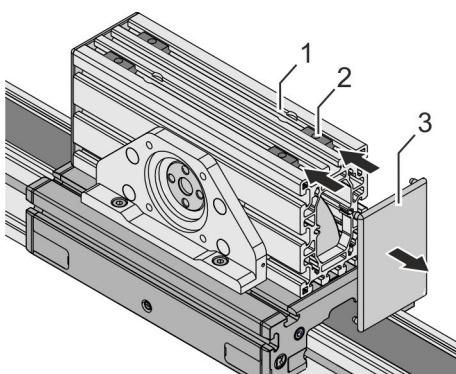

Fig. 27: Inserting slot stones
1. ➔ Remove the end cap (Fig. 27/3) of the pulley housing (Fig. 27/1) on the guide carriage.
2. ➔ Insert and position at least 2 slot stones (Fig. 27/2) each in the external slots of the pulley housing (Fig. 27/1).